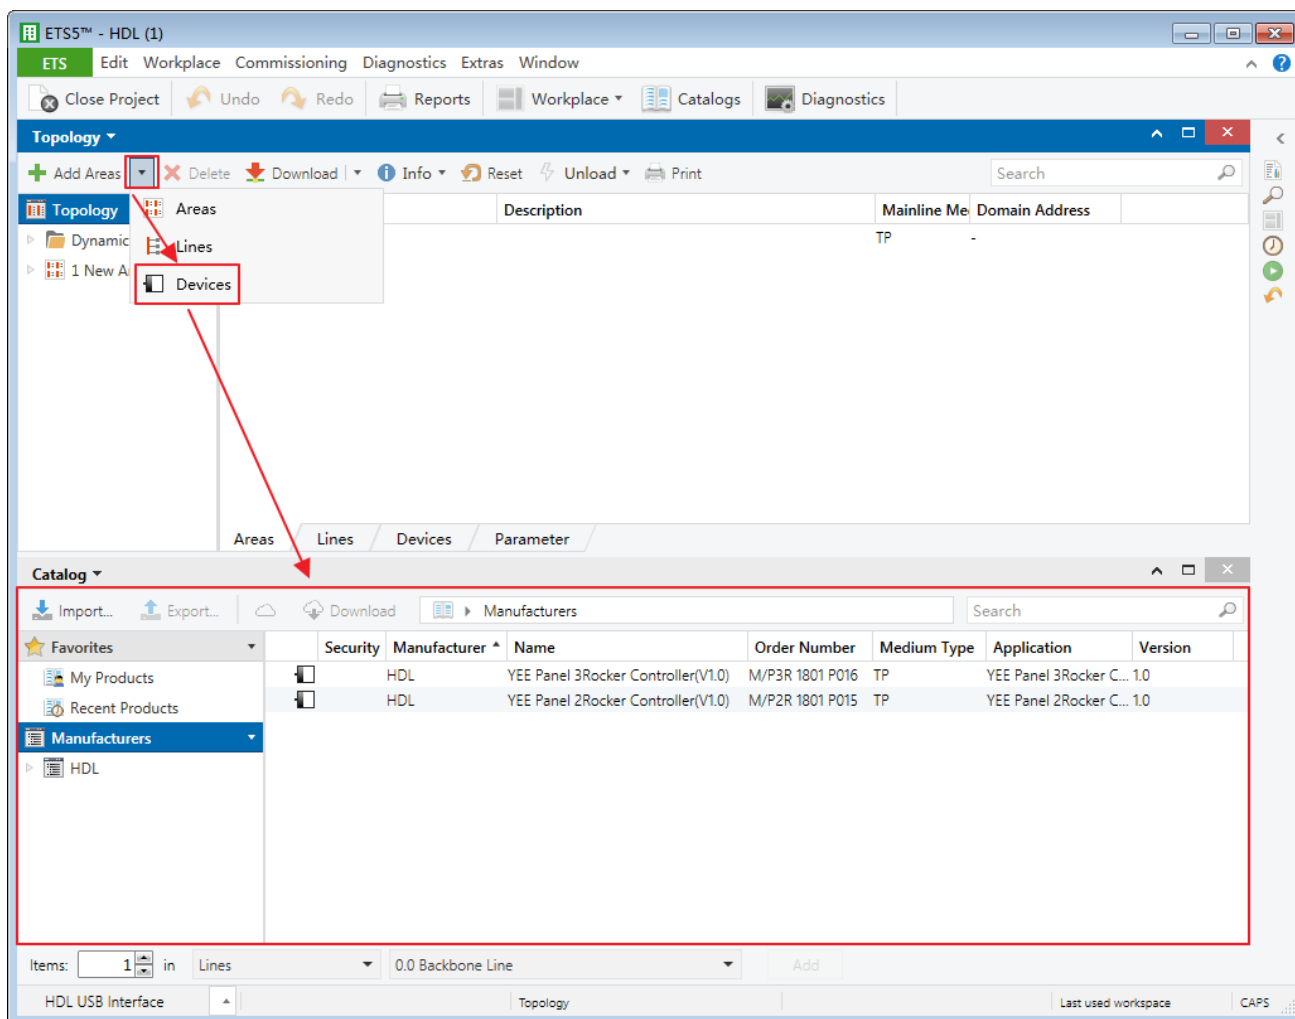

Figure 1-4 Add devices to projects
- ② Figure 1-4 shows “Topology” page, click the arrow beside “Add Areas” and select “Devices”, and the catalog page will show up below.